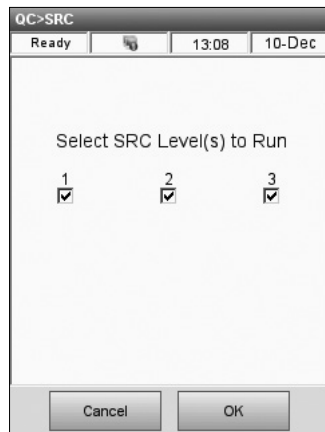

Fig. 4-4 Select Level
4. Select the desired levels (Fig. 4-4) and press